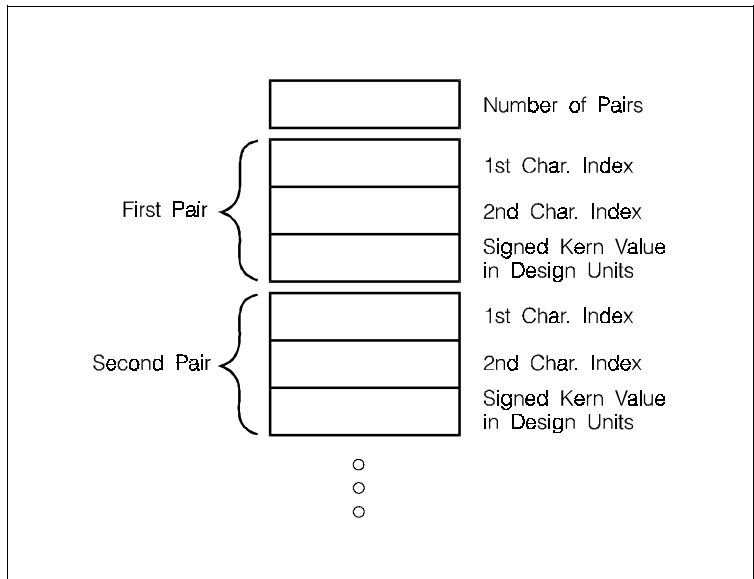

Figure 6-8. Pair Kern Information
- Kern (SIGNED SHORT). This is a signed integer value indicating the recommended amount by which to kern the two characters. The kern value is added to the escapement value of the first character. A positive value means increased spacing and negative means decreased spacing. Figure 6-8 shows the structure of this tag data.